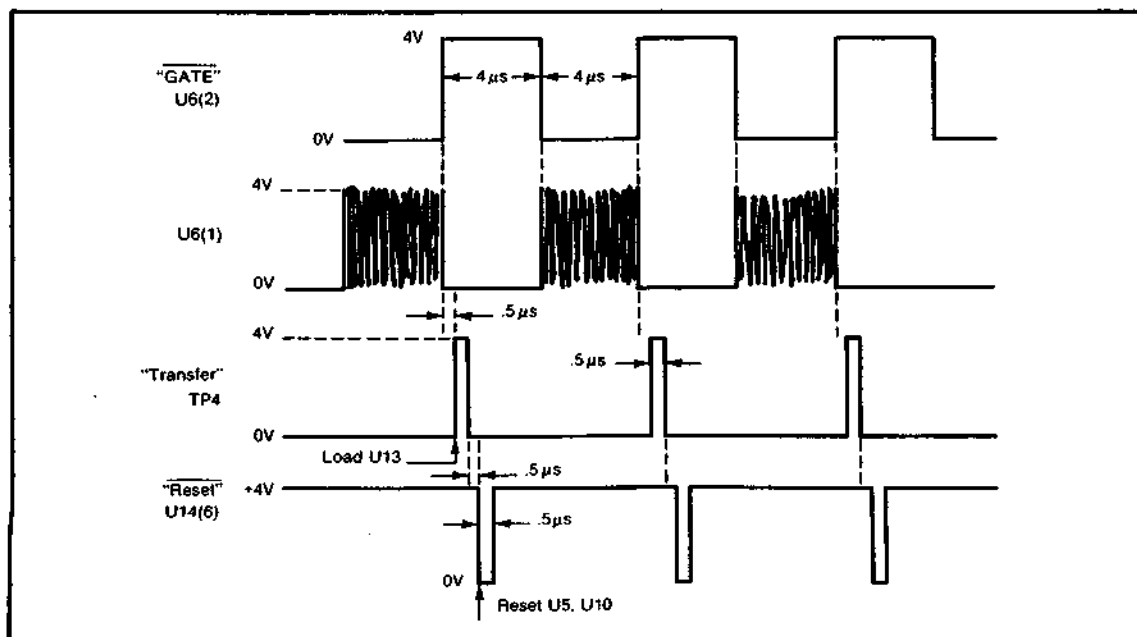

Figure 8-13. Filter Timing on A12 IF Detector
8-211. The IF signal output is prescaled by 4 in U3A ($\div 2$) and U3B ($\div 2$). The ECL output of U3(15) is translated to TTL levels by transistor Q1. This signal is then counted for 4 microseconds. The NOR gate U6 is enabled for a period of 4 microseconds by U6(2) going low for 4 microseconds. This 4-microsecond gate is generated by divider U15 which divides a 1 MHz input by 8. The input is from the A18 Time Base Buffer. During the 4-microseconds gate time, the count is totalized by binary counters U5 and U10. The contents of the counters are decoded by U8, U9 such that if the IF frequency is in the range of 48 MHz to 102 MHz (the U5 and U10 counters count 48 to 102 counts during the 4-microsecond gate), U6(13) [TP5] will be high. If the IF is in the range of 22 MHz to 128 MHz, U6(10) [TP6] will be high. Dual flip-flop U13 is loaded with this qualifier information every 8 microseconds by a clock signal from U11(12) [TP4]. After a 1-microsecond delay, the U5, U10 counters are reset by a low level from U14(6). Figure 8-13 shows the timing for the filter.